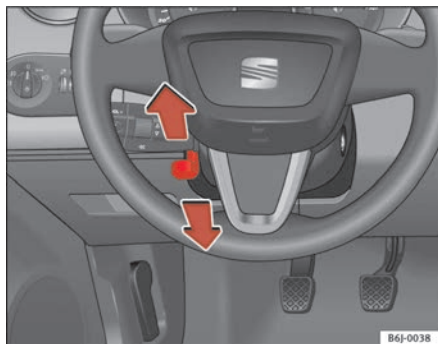

Fig. 92 Steering column height adjustment
- Push the lever ⇒ **fig. 92** under the steering column down ⇒ .
- Adjust the steering wheel in this way until the correct position is obtained ⇒ **fig. 92**.
- Adjust the driver seat or steering wheel so that there is a distance of at least 25 cm between the steering wheel and your chest ⇒ **fig. 92**. If you fail to observe the minimum distance, the airbag will not protect you. Risk of fatal injury.